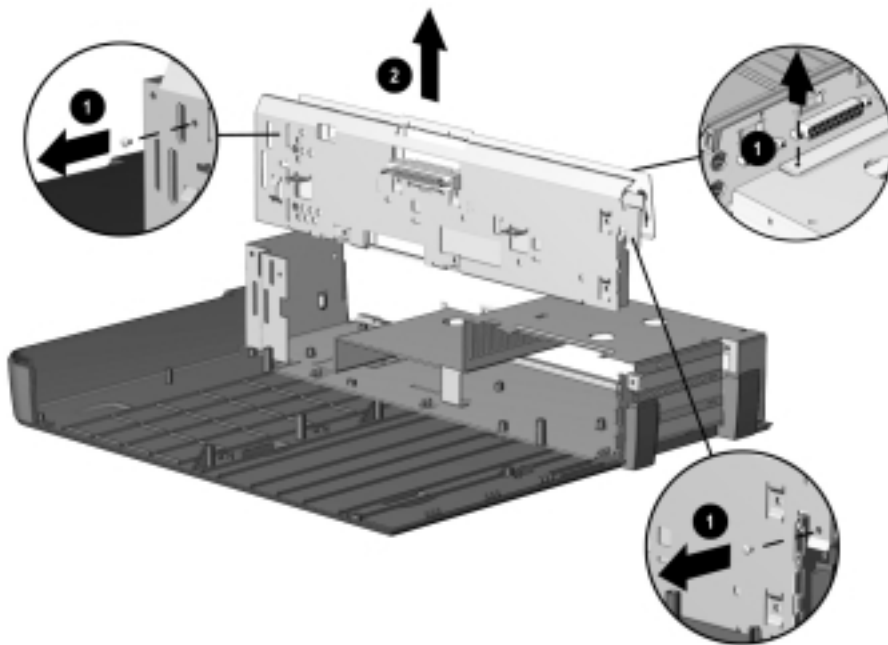

Figure 5-31. Removing the Backplane
9. Remove the three screws ❶ that secure the backplane to the base cover (Figure 5-31).
10. Remove the backplane ❷ from the base cover.